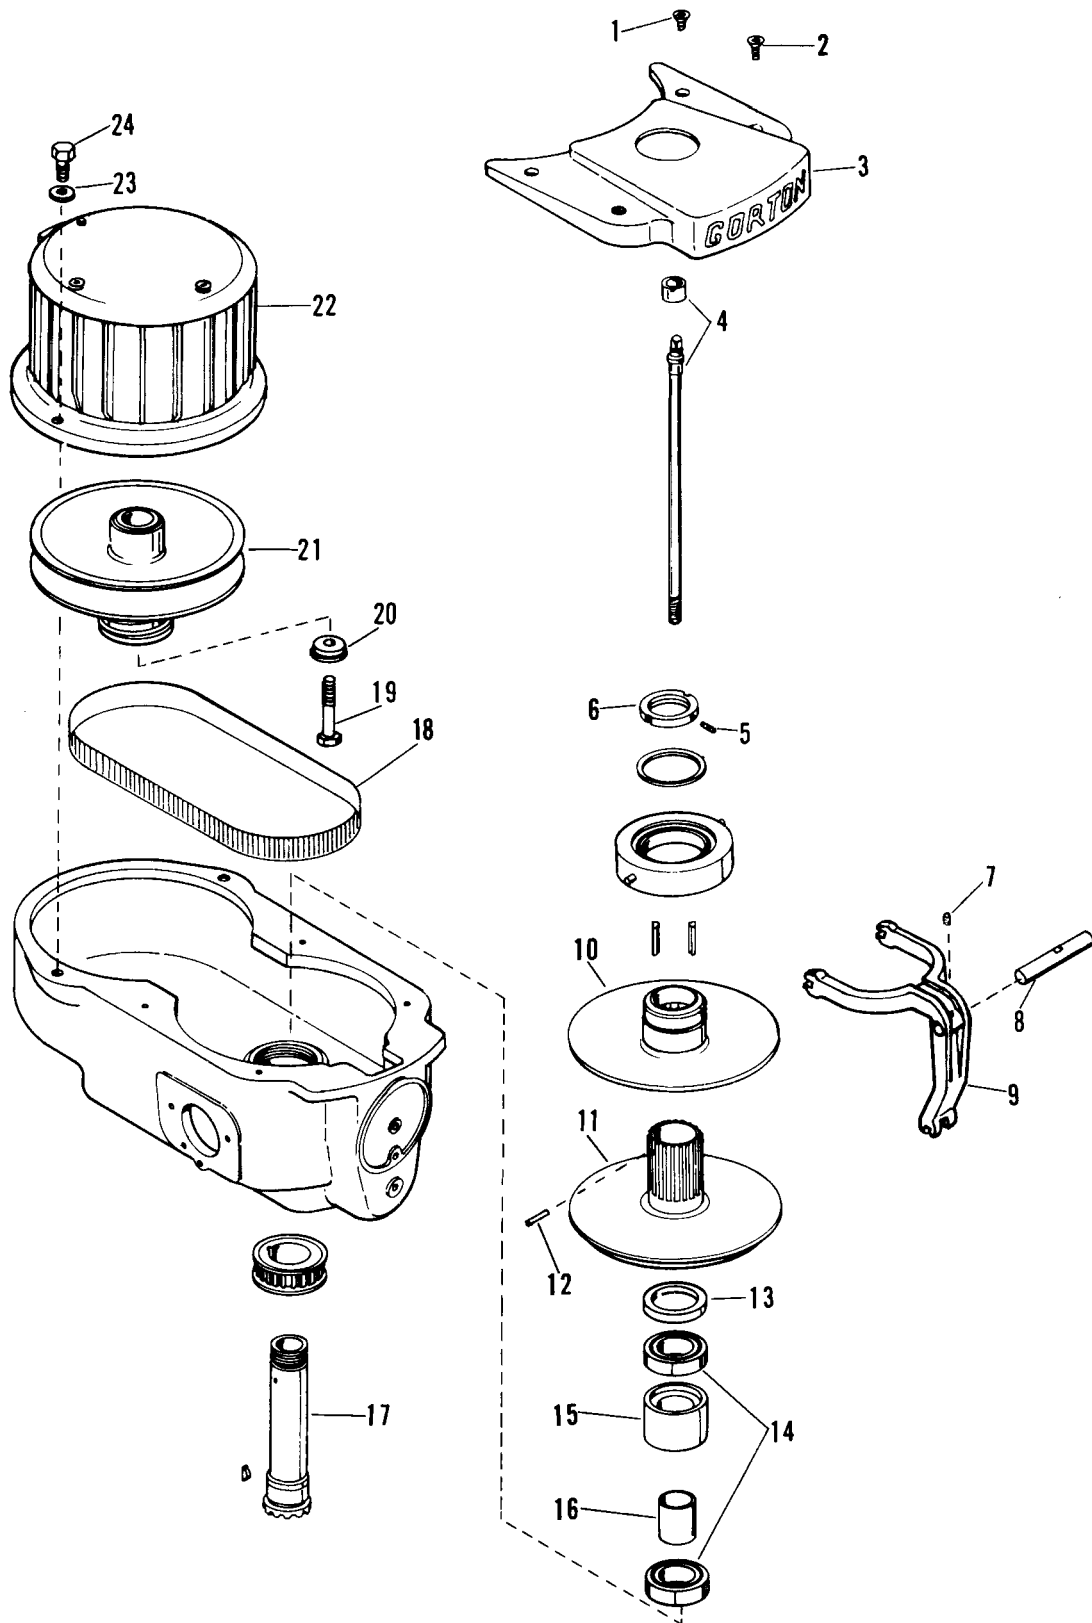

Figure 19. Replacing Bull Gear Bearings--Variable Speed Head
45. REPLACING BULL GEAR BEARINGS (figure 19)
To remove or replace spindle drive belt (17, figure 19), follow steps 1 through 10, paragraph 45.
48. REMOVING PULLEY HOUSING BEARINGS (figure 19)